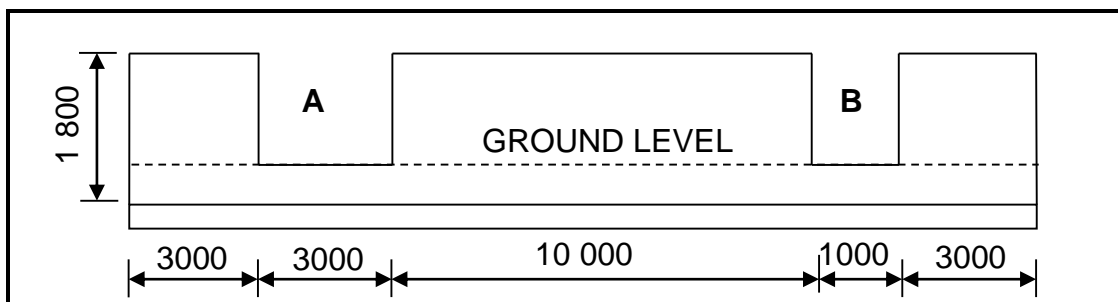

FIGURE 3.2
3.2 FIGURE 3.2 shows the front elevation of a boundary wall with two openings.